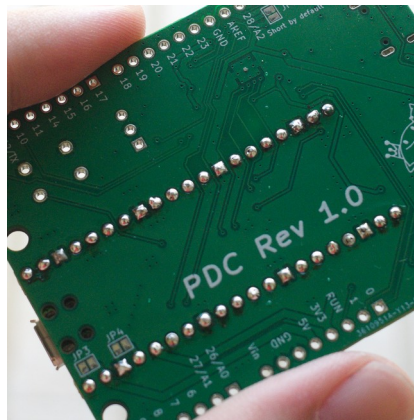

Figure 5: Solder pin headers.
2. Flip to the other side and solder the pin headers, see figure 5. Apply a little bit of solder to heat up both the pin and the pad, and then add more solder to cover the whole pin. It is recommended to use longer pin headers such as 15mm ones. However, 12mm pin headers will just work as in the figure.